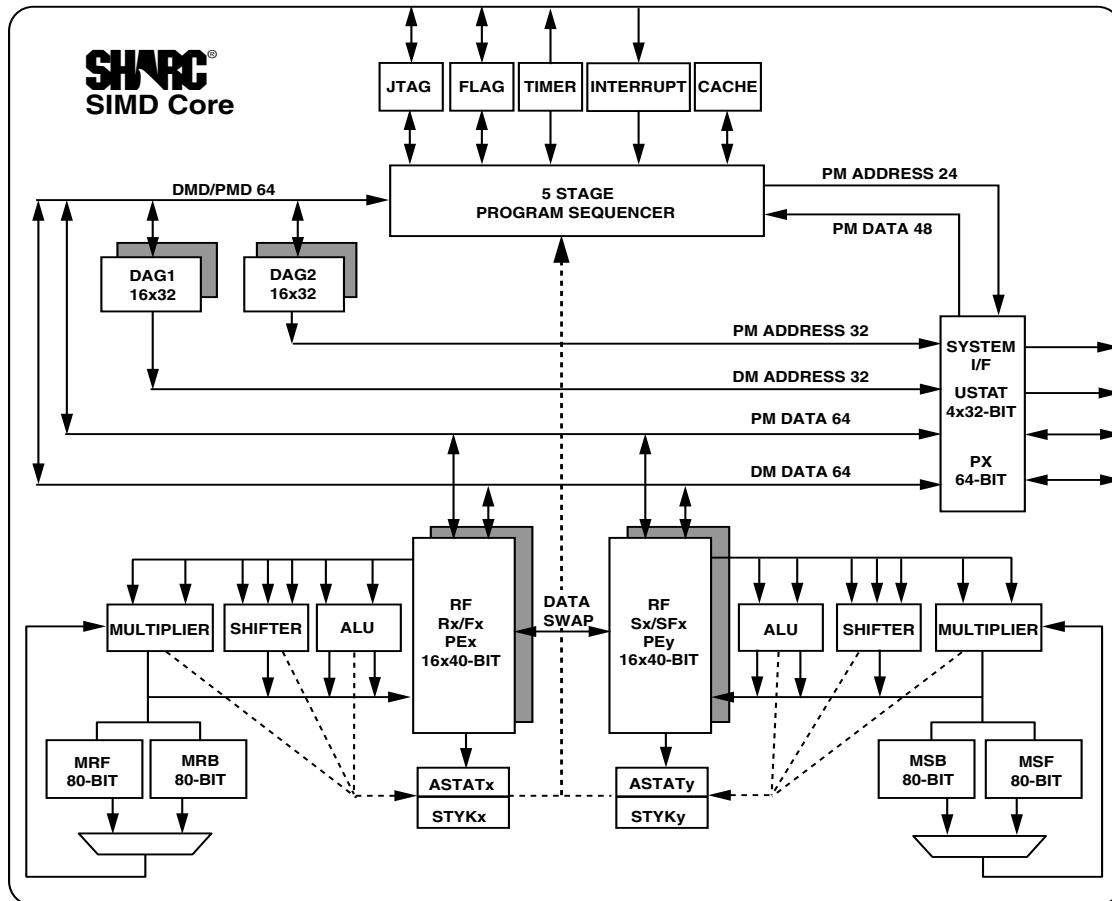

Figure 2. SHARC Core Block Diagram
The ADSP-2148x is code compatible at the assembly level with the ADSP-2146x, ADSP-2137x, ADSP-2136x, ADSP-2126x, ADSP-21160, and ADSP-21161, and with the first generation ADSP-2106x SHARC processors. The ADSP-2148x shares architectural features with the ADSP-2126x, ADSP-2136x, ADSP-2137x, ADSP-2146x and ADSP-2116x SIMD SHARC processors, as shown in Figure 2 and detailed in the following sections.
The ADSP-2148x features an enhanced Harvard architecture in which the data memory (DM) bus transfers data and the program memory (PM) bus transfers both instructions and data (see Figure 2). With its separate program and data memory buses and on-chip instruction cache, the processor can simultaneously fetch four operands (two over each data bus) and one instruction (from the cache), all in a single cycle.